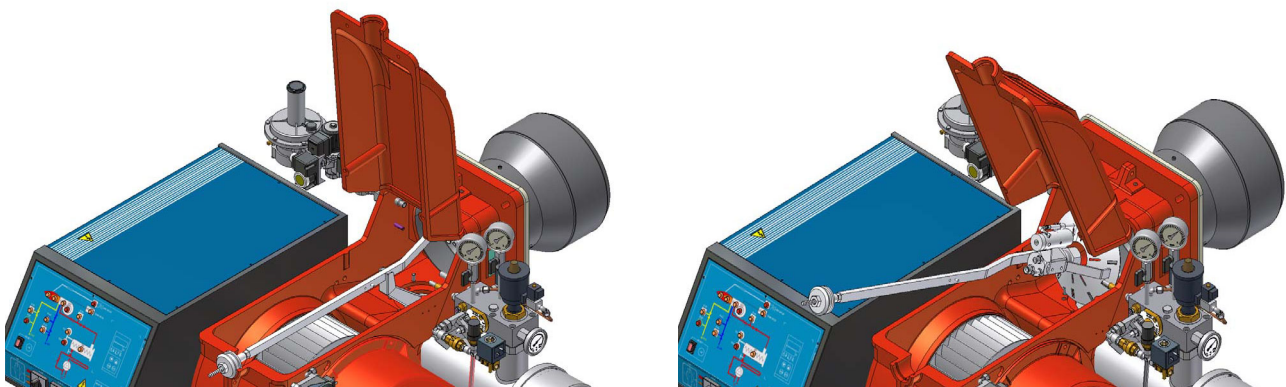

Fig. 20
- Unscrew the flexible hoses from the gun (burner side) and remove the whole assembly as shown on Fig. 20.